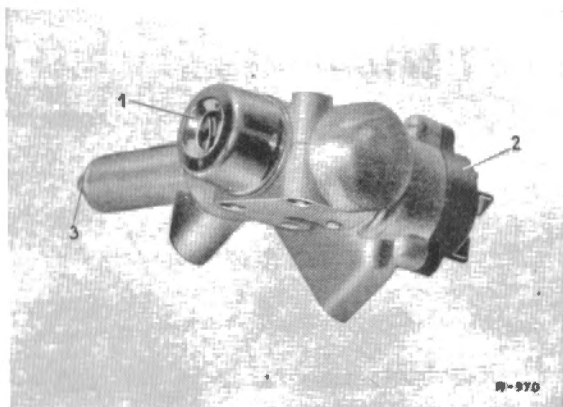

Fig. 46-8/4
4. Unscrew the hexagon nuts (1) from the right threaded bolt of the tightening strap (16). Then unscrew the hexagon screws (6) and (8) for fastening the steering lock to the cross member (3) (Fig. 46-8/2).
6. Disconnect the cables at the contact plate of the steering lock and remove the steering lock (Fig. 46-8/4).